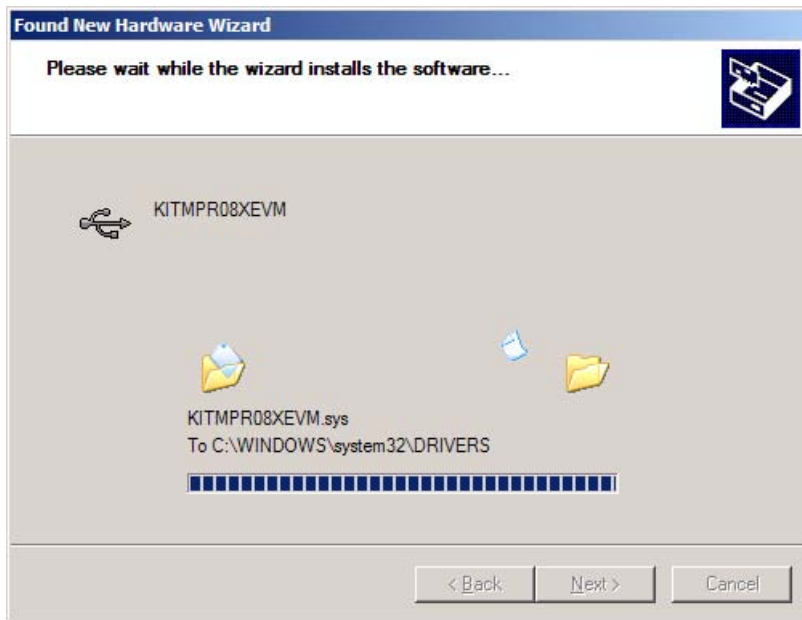

Figure 10. Found New Hardware Wizard Screen 3
3. The driver should automatically install (Figure 10).